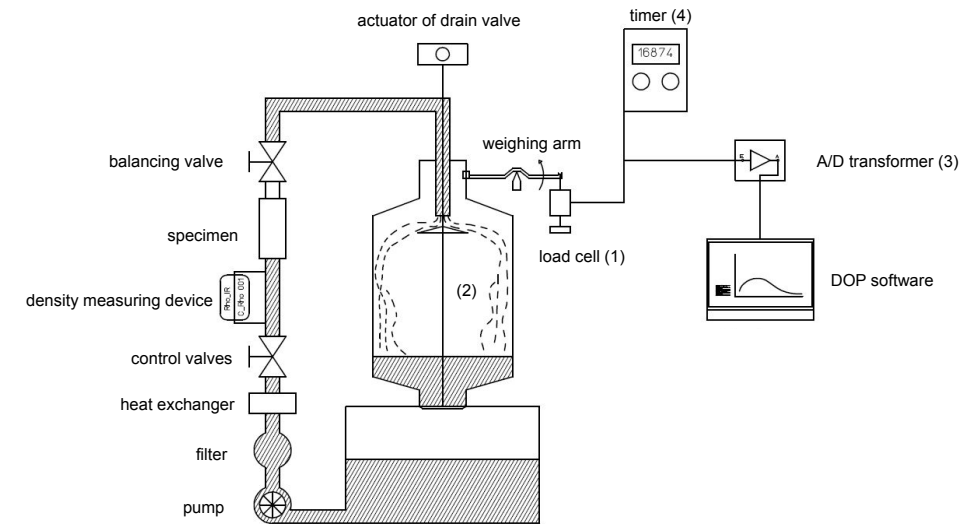

Fig. 8-5: Weighing system – start of the weighing process
The load cell (1) measures the weight increase caused by the calibration liquid flowing into the weighing container (2) and sends its signal to the A/D transformer (3). When the weight value stored under setpoint 0 is reached, the A/D transformer (3) activates the timer (4) in the test stand. This is the beginning of the actual weighing process. The taring phase zeroes the scale, compensating for dynamic effects. (Fig. 8-5)